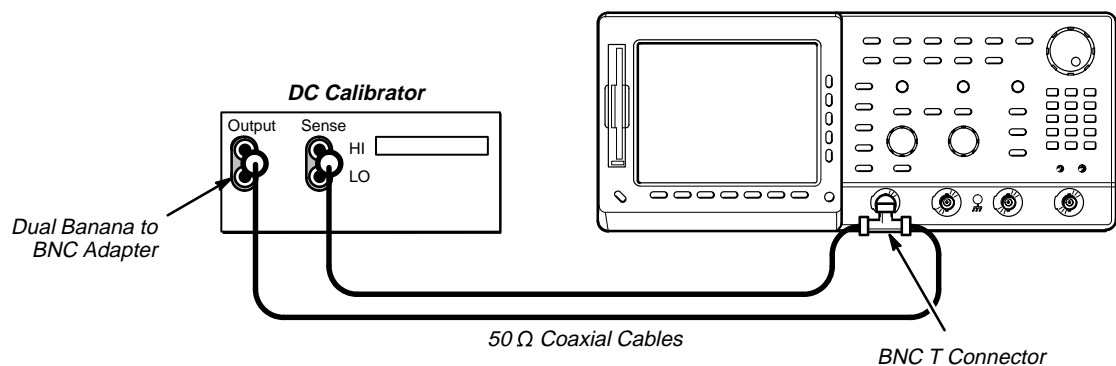

Figure 1-16: Initial Test Hookup
- Connect the output of a DC calibration generator through a dual-banana connector followed by a 50 Ω precision coaxial cable to one side of a BNC T connector. See Figure 1-16.
- Connect the Sense output of the generator, through a second dual-banana connector followed by a 50 Ω precision coaxial cable, to other side of the BNC T connector. Now connect the BNC T connector to **CH 1**. See Figure 1-16.